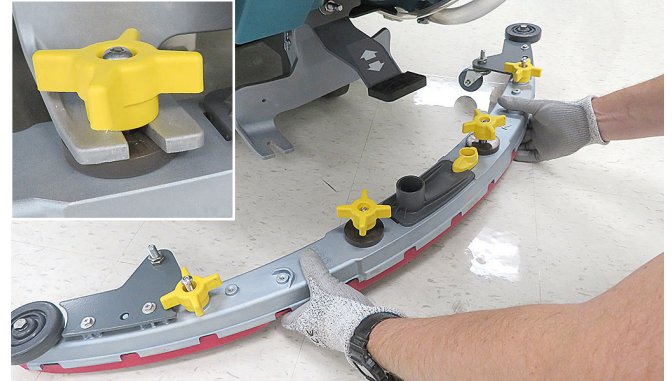

FIG. 6
2. Attach the squeegee assembly to the squeegee mount bracket (Figure 6). Make sure the black disks are positioned below the squeegee mount bracket as shown. Tighten the star knobs by hand only.